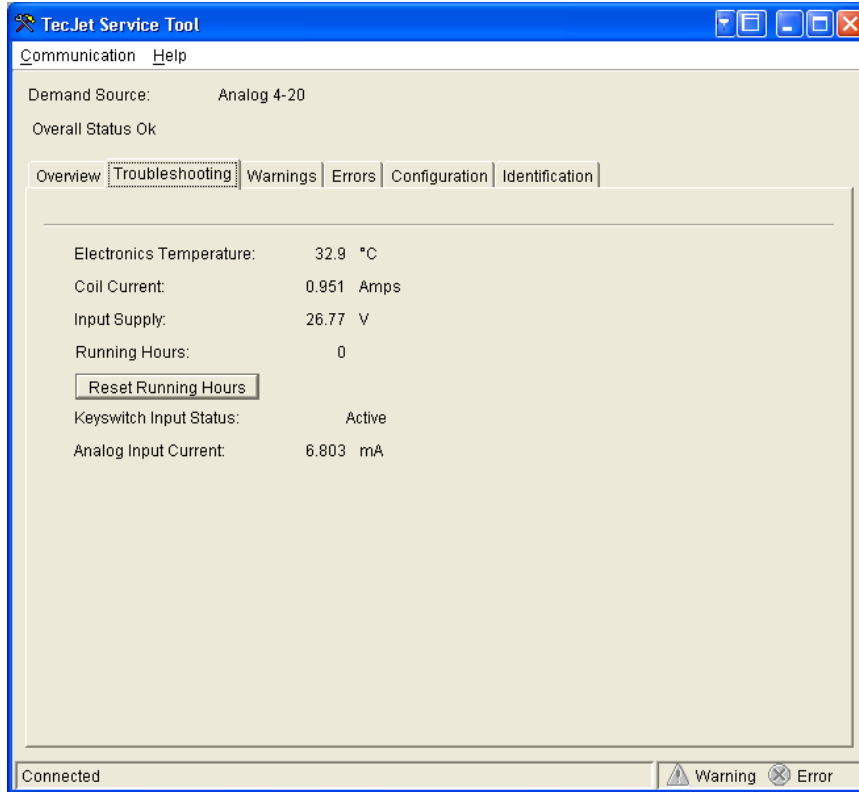

Figure 5-3. Troubleshooting Screen
- Troubleshooting (Figure 5-3)